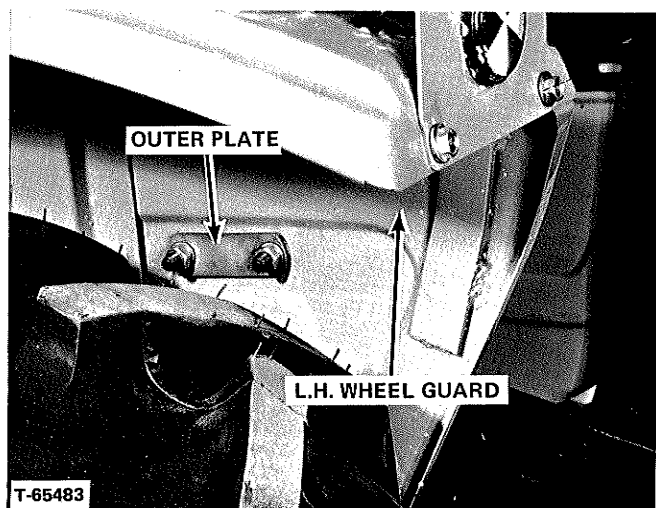

FIGURE 7
- c. Remove bolt from hole "D" and move the outer plate to the outside of wheel guard as shown in Figure 7. Install two .375" x 16 x 1.5" grade 5 capscrews with flatwasher under head on inside of frame clip and lockwasher and nut outside of outer clip. Tighten nuts to 23 ft.-lbs. (31 N · m) of torque.